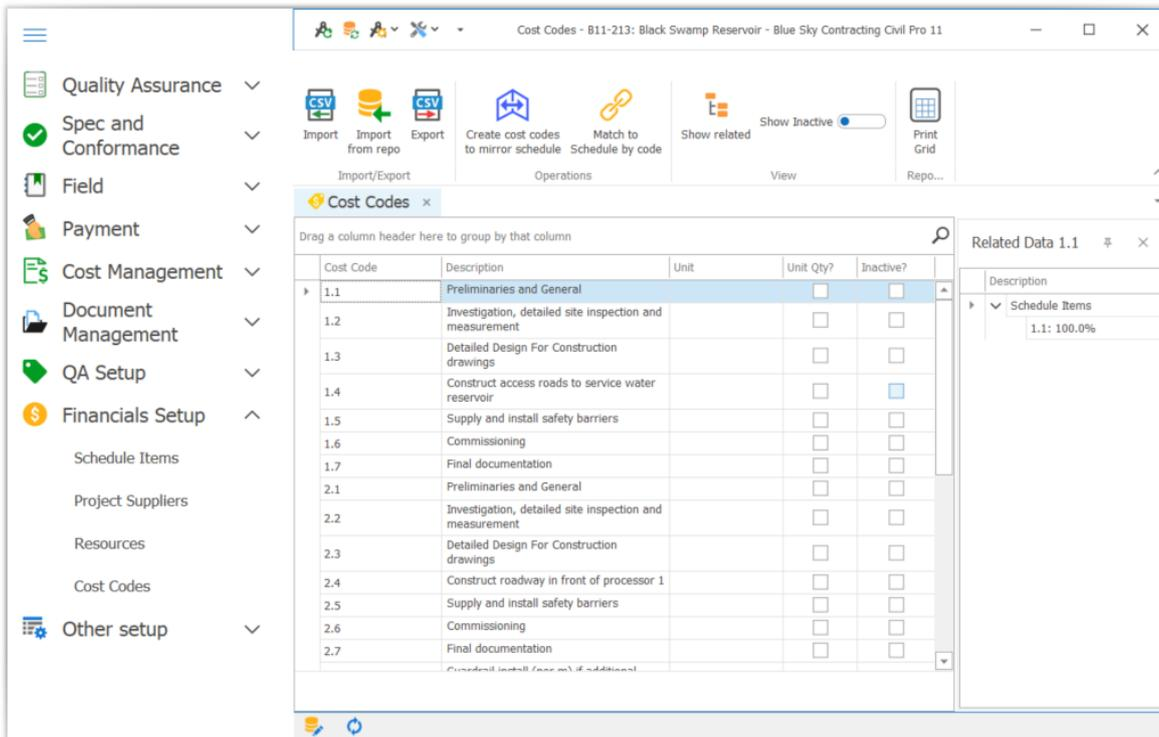

Figure 17 Newly Created Cost Codes in the Register
3. Your project cost codes will now appear in the Cost Code Register and you can see by looking at the related items panel to the right, that each code directly correlates to your previously created schedule items as in Figure 17.